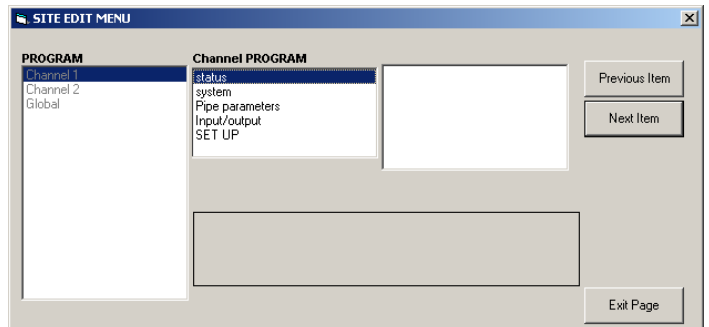

Figure 41: Site edit menu window
3. To enter data into the user program, double-click on the *site edit* menu. The window appears similar to *Figure 41* below.
4. To enter the channel 1, channel 2, or global menu, highlight and double-click on the desired menu in the left pane. For example, clicking on channel 1 in *Figure 41* above opens the list of options shown in the center pane.
PanaView returns to the channel *program* menu (see *Figure 41 on page 55*). Proceed to the system option.
- If you are not using *mass flow*, PanaView returns to the channel *program* window shown in *Figure 41 on page 55*. Proceed to the pipe option.
PanaView returns to the channel *program* window shown in *Figure 41* on page 55. Proceed to the pipe option on the next page.